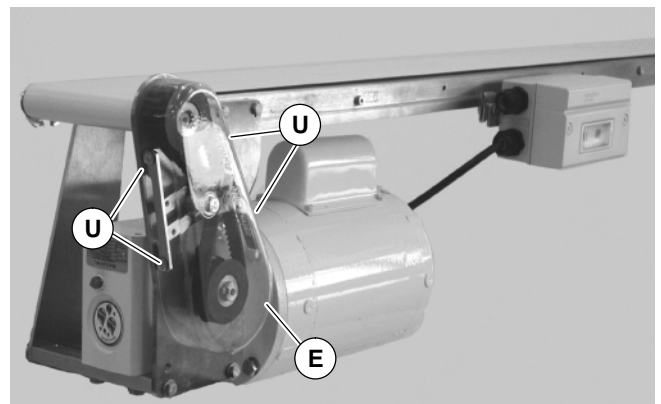

Figure 16
1. Loosen four (4) screws (U of Figure 16) and remove cover (E).
**NOTE:** Do not over-tighten screws (U of Figure 16).
- Attach cover (E of Figure 16) and tighten four (4) screws (U) to 35 in-lb (4 Nm).